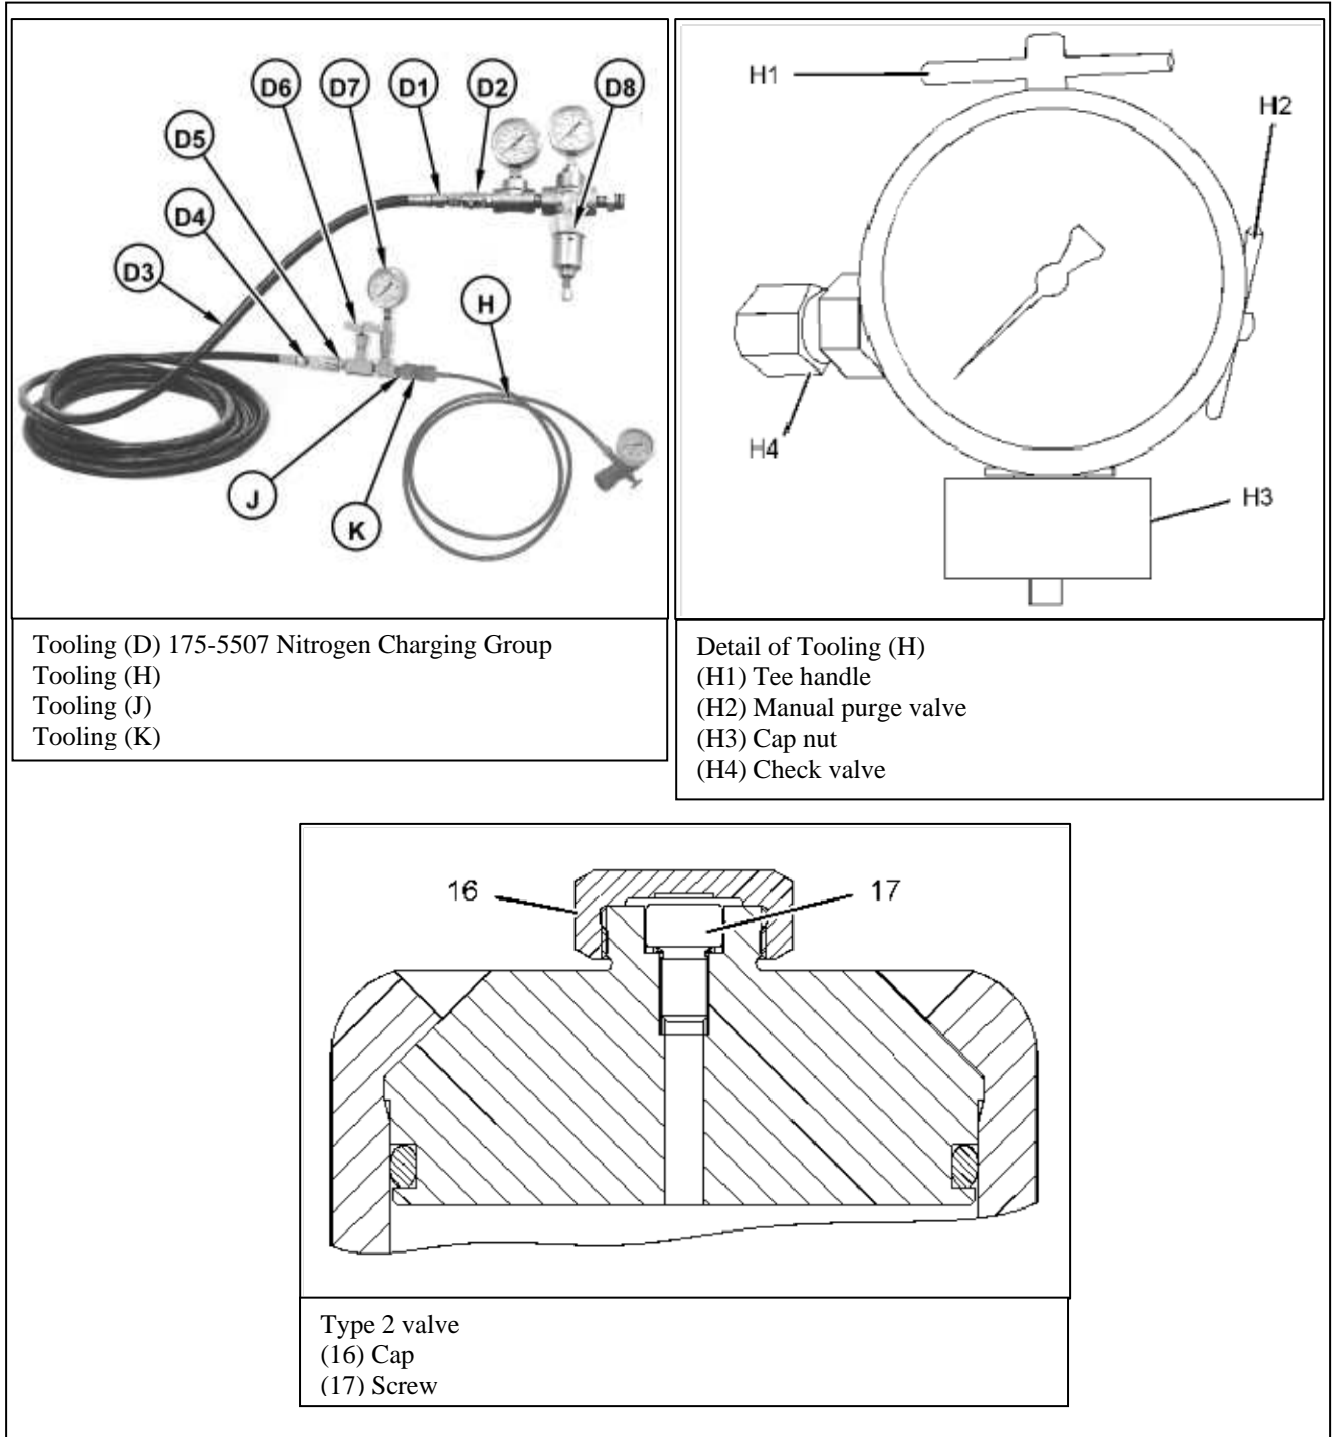

Figure 39: Type 2 Valve references
2. Assemble tooling (D), tooling (H), tooling (J), and tooling (K). Refer to Figure 39.